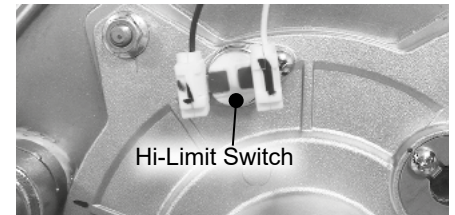

Figure 8 - Burner door hi-limit location
15 Locate the burner door hi-limit on the burner assembly as shown in Figure 8. Disconnect the two (2) wire leads from the hi-limit assembly and route them inside the water heater cabinet for ease of access to burner door.